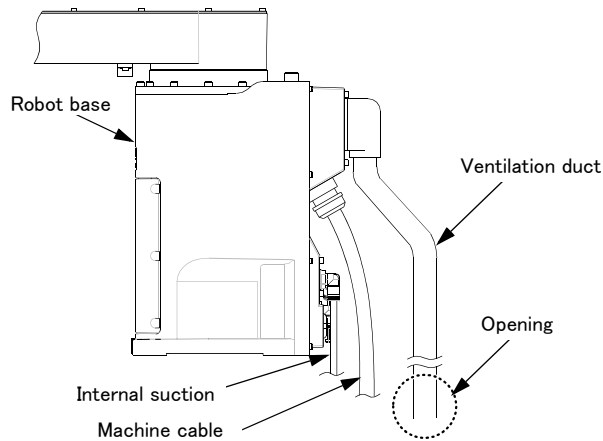

Fig.2-8 : Installation of Ventilation Duct
3) The ventilation duct is attached to the robot arm rear (refer to Fig. 2-8). As the Z axis moves up and down the volume of the bellows varies, and air is sucked in and released out of the robot's ventilation duct opening. Be sure to locate the ventilation duct's opening in a position that will not affect the robot's cleanliness.